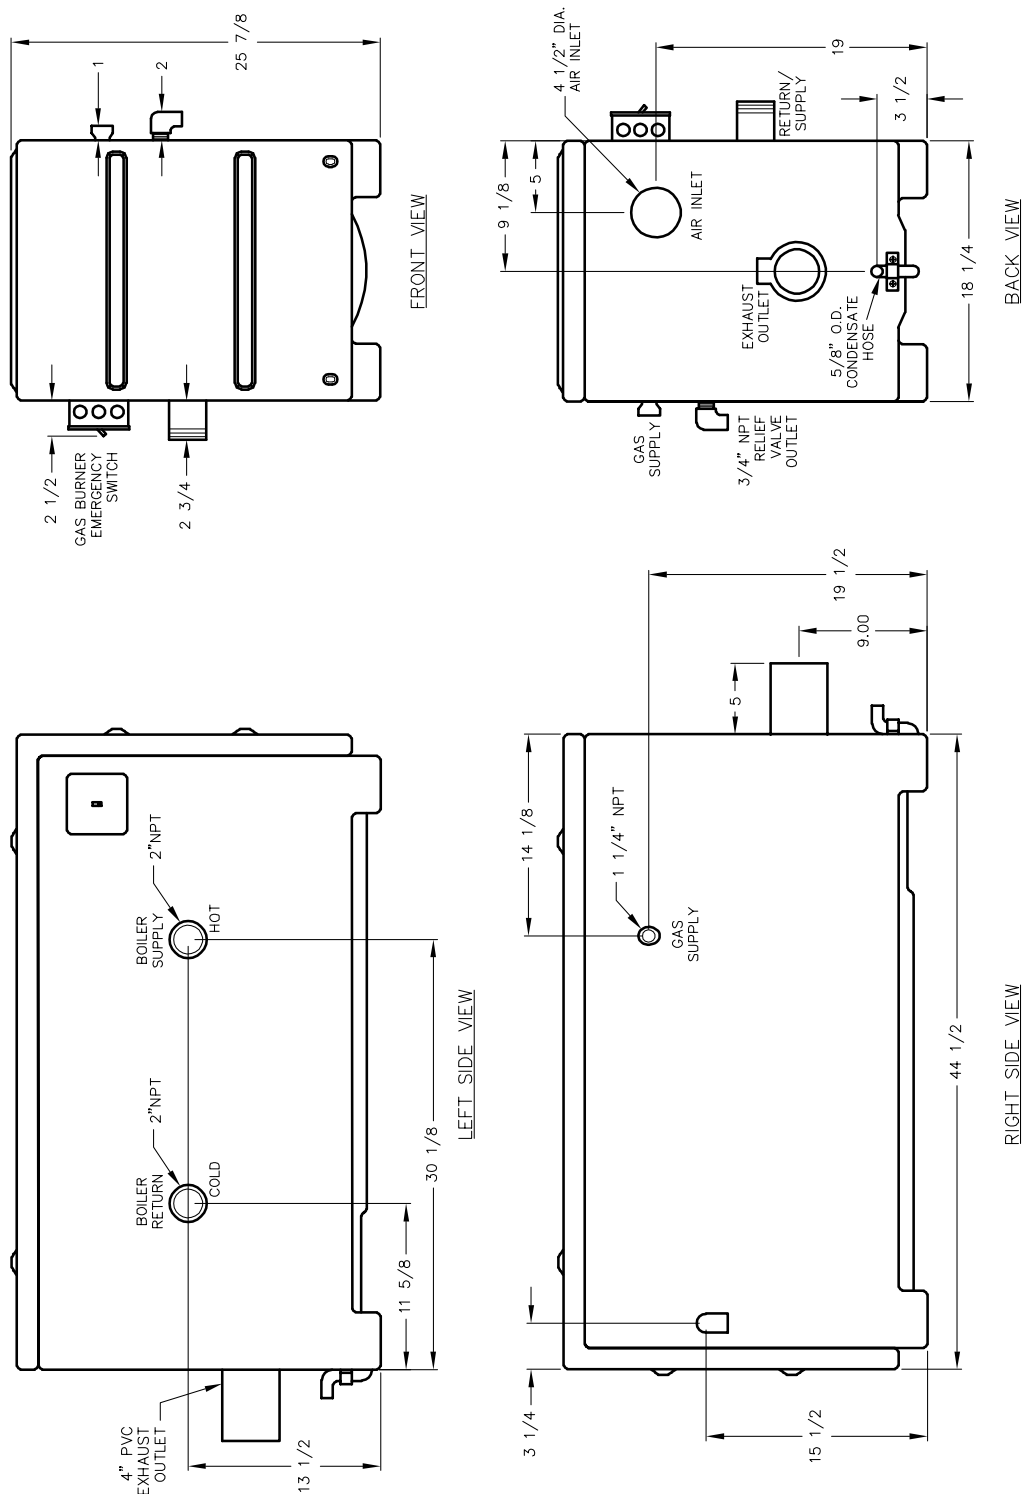

Figure 10.1: PI-399 Dimensions
- Figure 10.1 shows the dimensions of the PI-399.